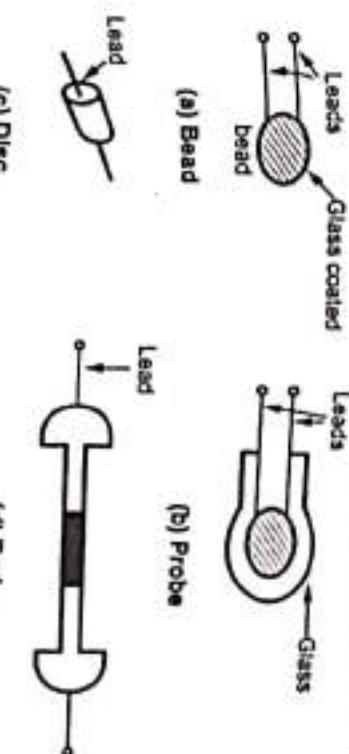

Fig. Q.27.1. Different forms of construction of thermistors
- Thermistors are available in a wide variety of shapes and sizes as shown in the Fig. Q.27.1.